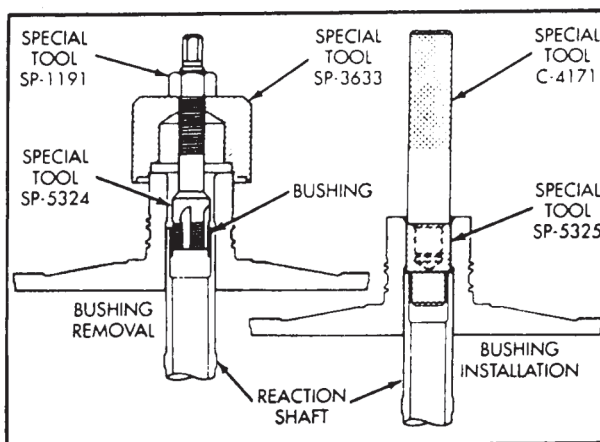

Figure 50
9. If it is necessary to replace reaction shaft support bushing, refer to Figure 50 for the special tools required.